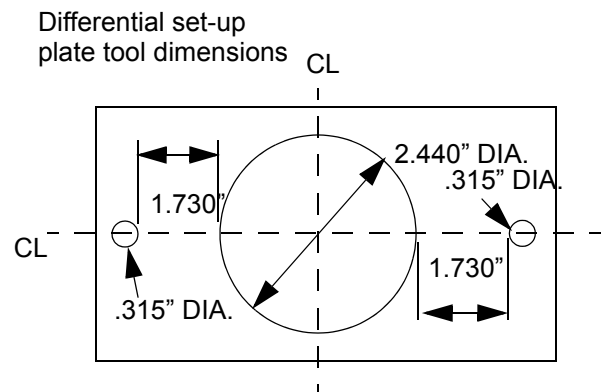

Figure 9.50
- 9.50. Dimensions for the fabrication of a differential set-up plate tool are given below: See Figure 9.50.